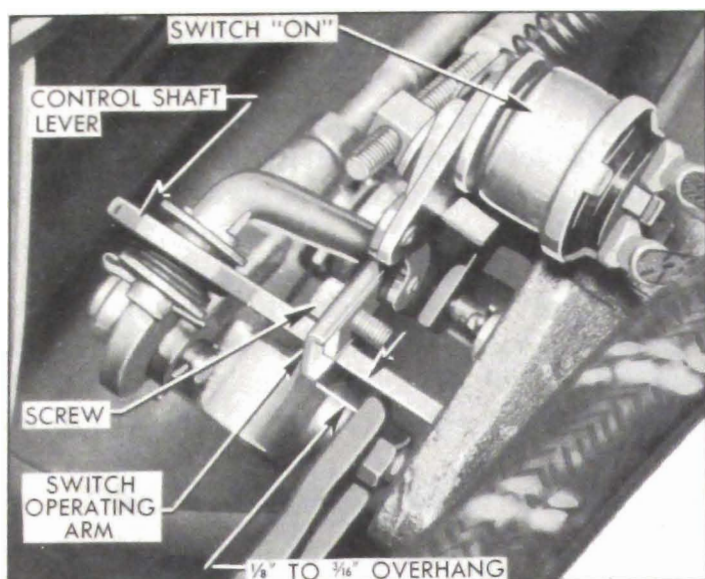

Figure 11-35—Position of Switch Operating Arm in Reverse
3. Loosen hex head cap screw on switch operating arm and adjust length of arm until end of arm extends $1/8''$ to $3/16''$ beyond front edge of control shaft lower lever. See figure 11-35. Tighten switch arm screw securely.